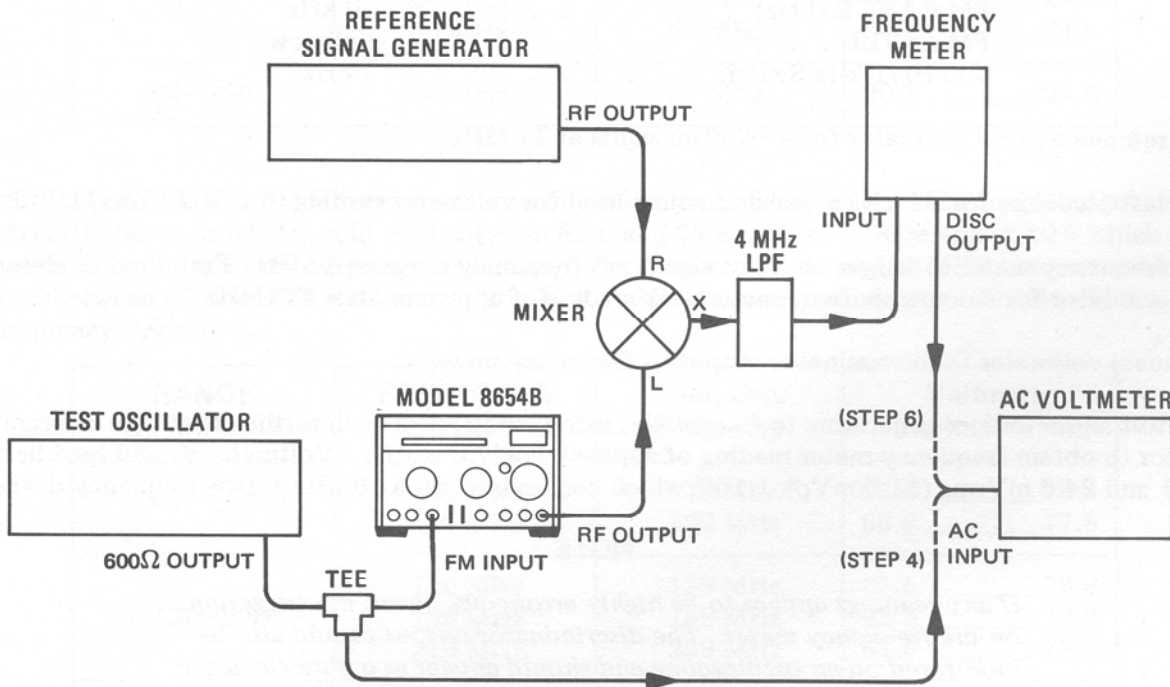

Figure 4-13. FM Sensitivity and Meter Accuracy Test Setup
2. Connect equipment as shown in Figure 4-13 after setting test Signal Generator controls as follows: